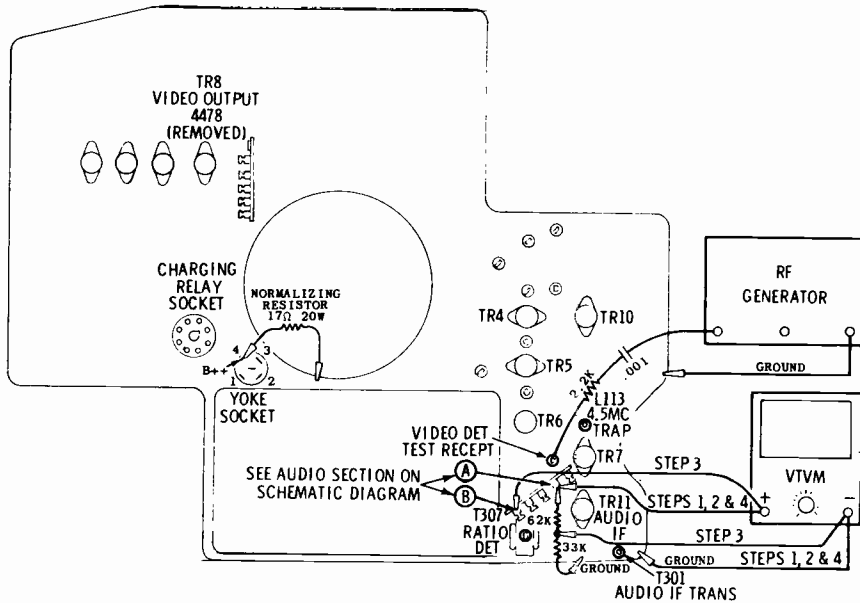

FIGURE 31. AUDIO ALIGNMENT DETAIL
5. Connect a 5% 62K and a 5% 33K ohm resistor in series from point (A) to ground (see Audio Alignment Detail).
8. Refer to Audio Alignment Detail (Fig. 31) for component and test point locations, and Coil Core Positions Detail (Fig. 32) for core locations in relation to chassis.